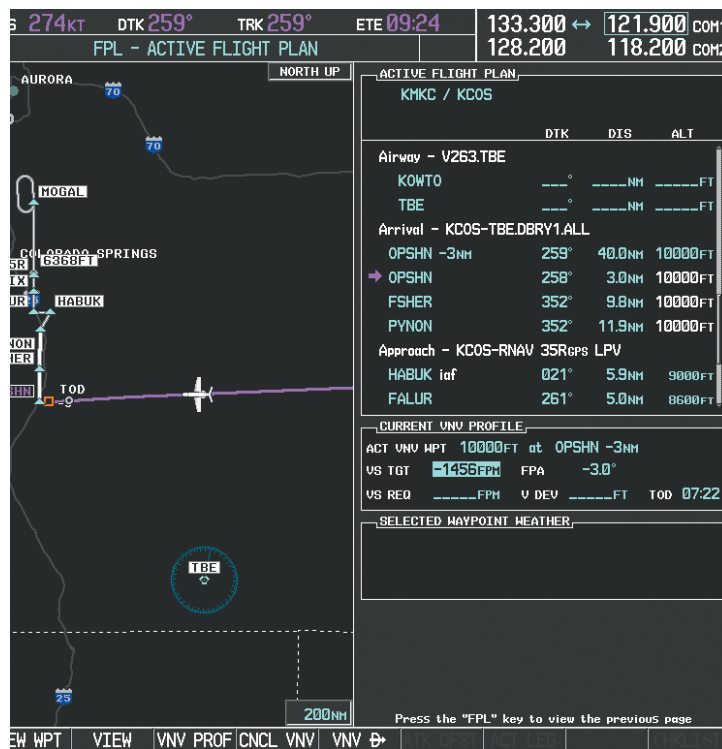

Figure 5-131 Adjusting the Descent
- a) Select the **VNV PROF** Softkey to place the cursor in the target vertical speed field (VS TGT) as shown in Figure 5-131.